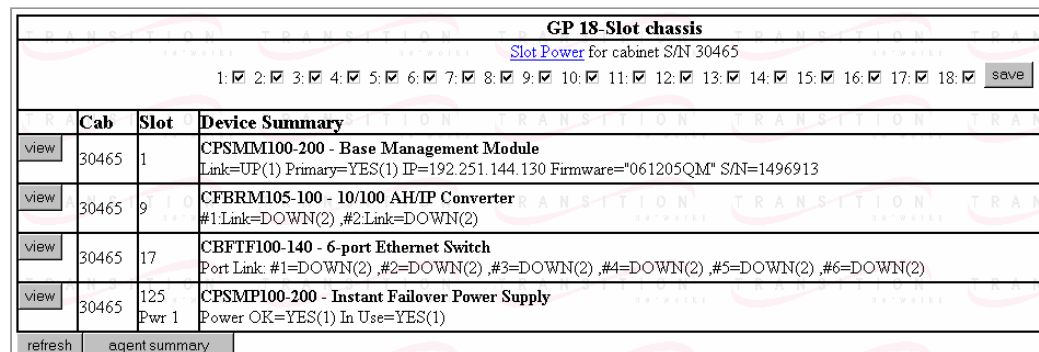

Figure 52: Devices in Chassis Slots
6.	Click the VIEW button to show the Devices in the cabinet slots, as shown in Figure 52.